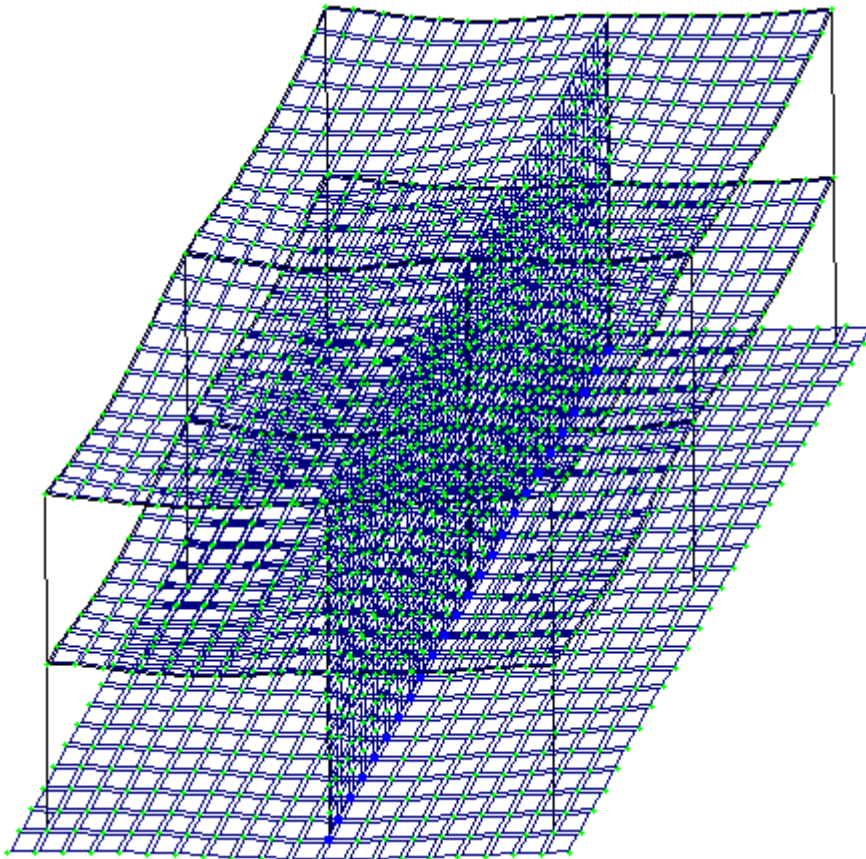

Figure 4.34 Design model with account of nodal displacements
- ⇒ In the mode of analysis results visualization, by default design model is presented with account of nodal displacements (see Fig.4.34).